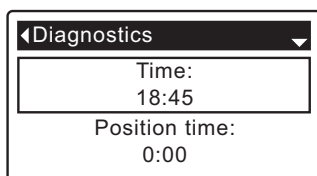

FIG. 80
8. Press the OK/MENU button to display the Diagnostics screen (See Figure 80).